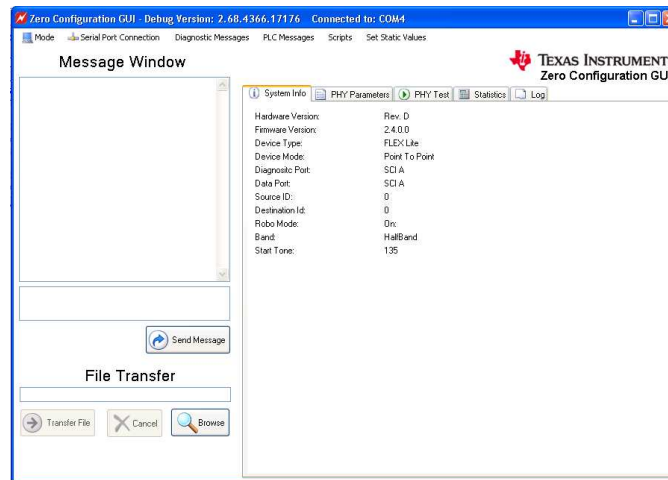

Figure 21. Intermediate GUI: User Interface
- Graphical displays of PHY parameters: PHY parameters configuration (see Figure 21).